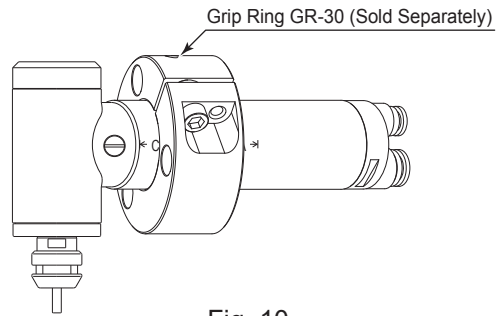

Fig. 10
- * When installing the Air Motor Spindle, it is recommended to use a "Grip Ring GR - 30 (sold separately (Fig. 10))". If the Grip Ring GR - 30 cannot be used due to the restriction of dimension and space, install as shown in ② below.